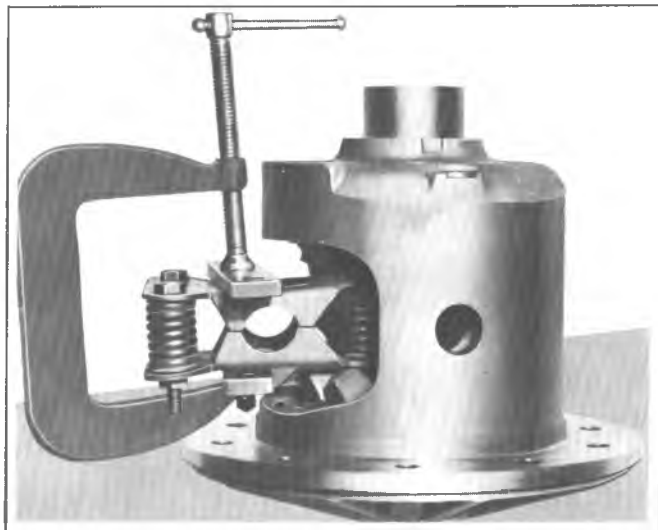

Fig. 5D--C-Clamp and Bar Stock Installed for Spring Removal
4. After installing the retaining bolts continue to drive spring retainer from the case until enough of the retainer is exposed to permit installation of bar stock and "C" clamp as shown in figure 5D. Center the bar stock over the axle shaft hole in the spring retainer, then compress "C" clamp sufficiently to permit withdrawal of spring pack.